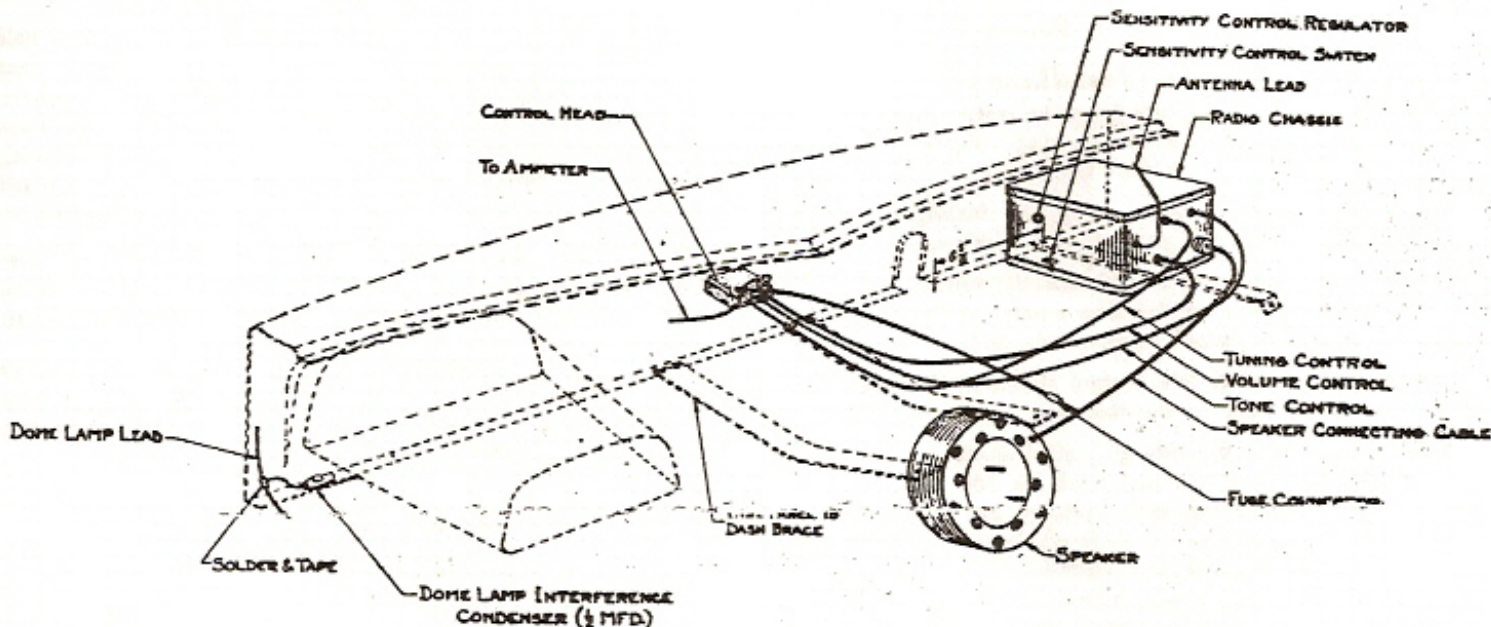

FIGURE 1
(See Figure 1)
3. Drill a $\frac{1}{4}$ " hole in the flange of the instrument board $6\frac{5}{8}$ " to the left of the steering column opening in the instrument board. (See Fig. 1).
Place the speaker mounting template in the center of the dash with the notched corners fitted to the instrument board to dash braces where they leave the dash. Locate and drill two $\frac{3}{8}$ " holes through the dash and mount the speaker. (See Fig. 1). Connect the speaker cable plug in its receptacle on the Receiver housing (see Fig. 1). Keep the edge of the plug marked "bottom" at the bottom.
Connect the three flexible control shafts in their respective couplings on the back of the Receiver. (See Figure 1).
Connect the antenna lead in its receptacle on the Receiver housing. (See Figure 1).
d. Connect a 1/2 mfd. (small) condenser to the dome light lead as close as possible to the point where it enters the right hand "A" pillar. This connection must be soldered and taped. Drill a 1/8" hole in the flange of the instrument board as far to the right as possible and install the condenser. (See Figure 1).